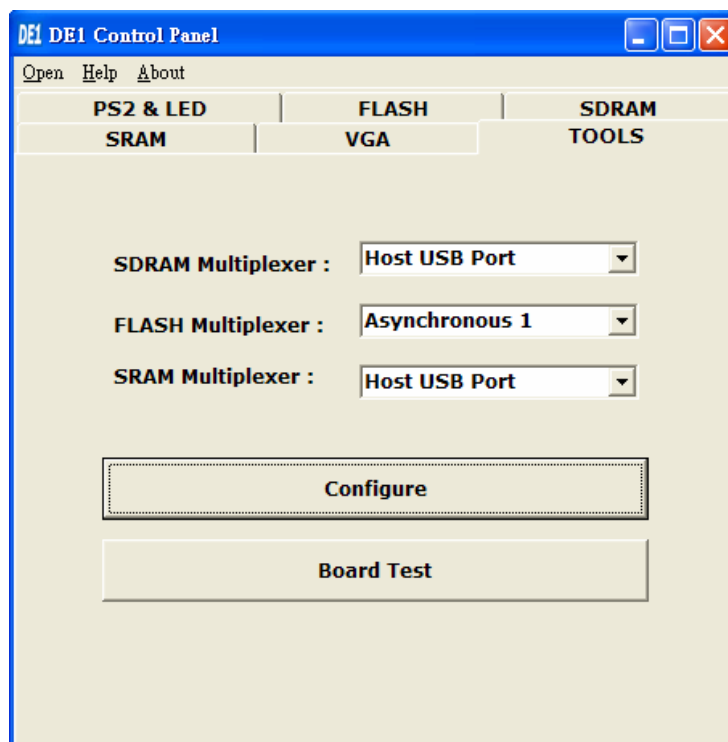

Figure 3.8. TOOLS window of the DE1 Control Panel.
2. In the DE1 Control Panel, select the TOOLS tab to reach the window in Figure 3.8.